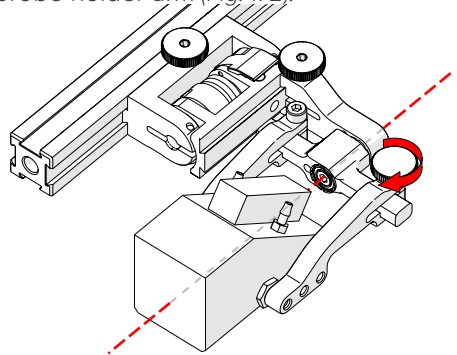

Fig. 173 - Pinch wedge with arm
9. Tighten probe holder arm adjustment knob (Fig. 173).